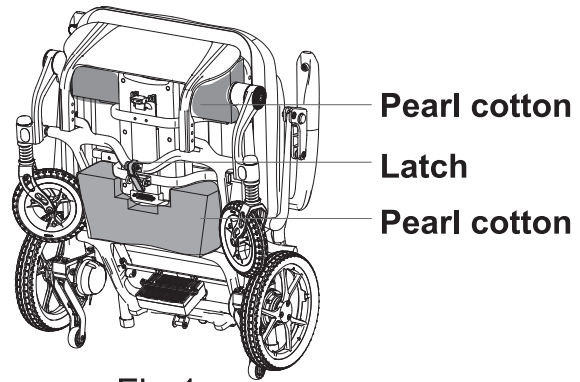
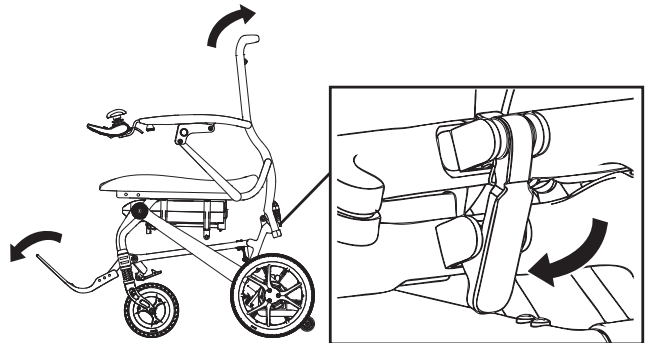
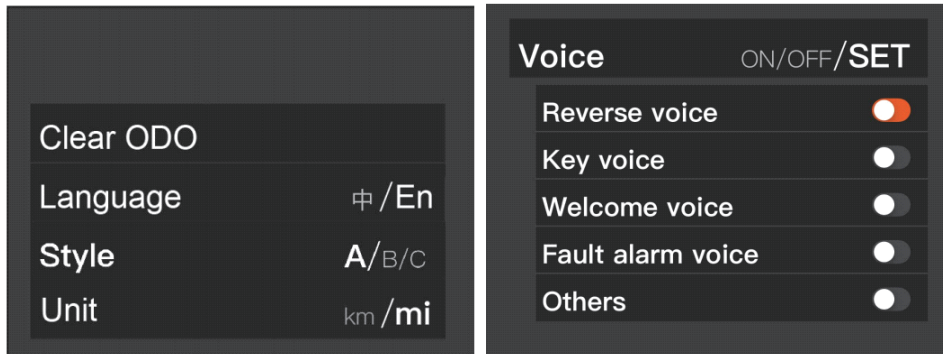

Fig.1
Fig.2
Figure 1 (Project interface 1) Figure 2 (Project interface 2)
8.3.1 Open the box, take out the wheelchair, and remove the protective cushion. First flip the footrest forward, and then take out the pearl cotton protective pad in the battery compartment. When unfolding the wheelchair, please first find the latch under the footrest (**Fig.1**), slightly push the latch upward to unlock it, then press the backrest with one hand and the seat with the other hand, and pull the wheelchair forward and backward. When you hear a click, it indicates that the latch has been stuck into the locking pin (**Fig.2**), and the wheelchair has been unfolded.
The controller is turned on and the instrument display is normal. Press and hold the  and  buttons for about 3 seconds. After the controller emits 2 beeps, release the combination button to enter the engineering interface, as shown in Figure 1 (engineering interface 1) and Figure 2 (engineering interface 2):